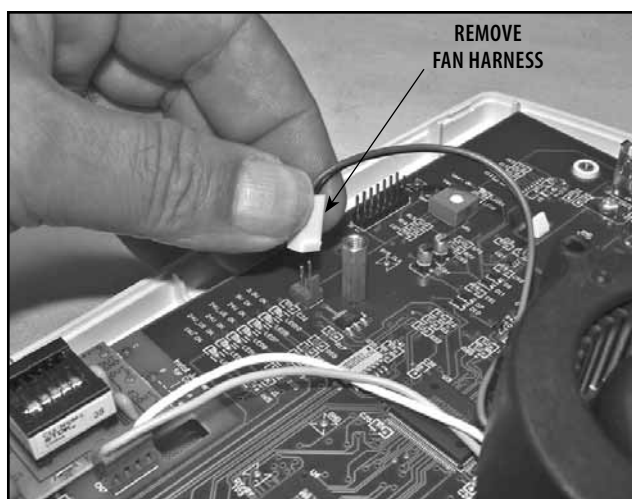

FIGURE 6.26
3. Remove the Fan Harness from the Control Board. See Figure 6.26.